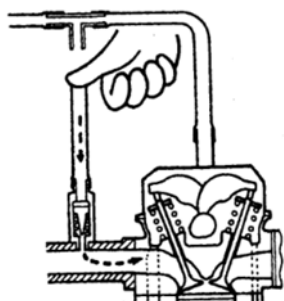

Fig. 1.4-13
(1) Dismount the hose connecting tee joint to PCV valve.
(2) Start engine. Engine shall run at idle; press one end of the hose with thumb to check the negative pressure in the hose. If the hand is gripped by the hose, showing that PCV valve is in good state, as shown in Fig. 1.4-13.